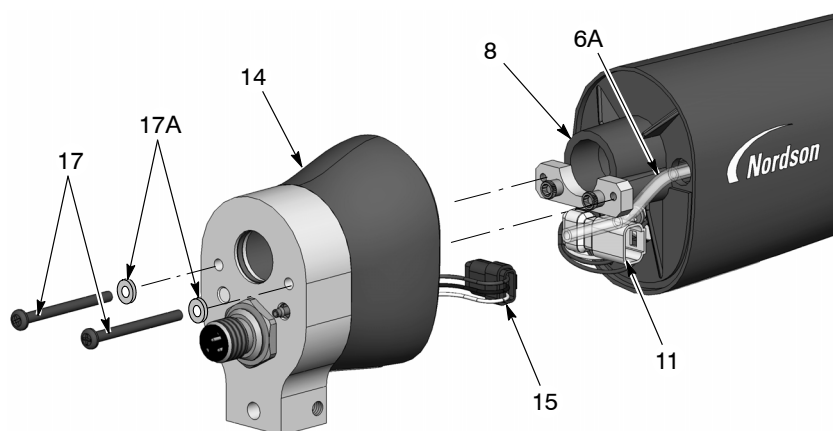

Figure 7-13 Bar-Mount Spray Gun Disassembly 1 of 3
2. See Figure 7-13. Remove the two socket-head screws (17) and lock washers (17A) from the rear body assembly (14).
3. Carefully pull the rear body assembly far enough off the bulkhead (8) to disconnect the power supply harness (11) from the receptacle harness (15); and the filter assembly tubing (10) from the barbed fitting inside the rear body assembly.